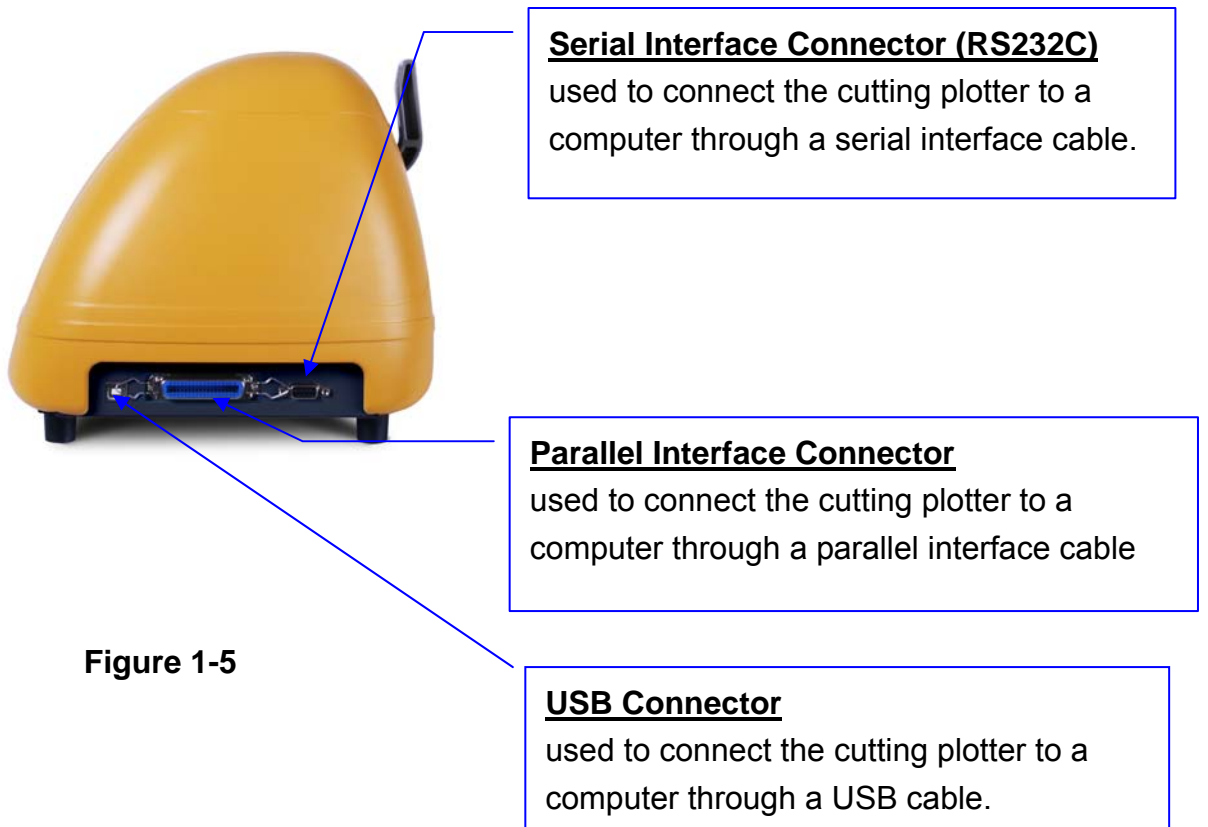

Figure 1-5
1.4.5 The Right-hand Side of Expert Pro (Figure 1-5)